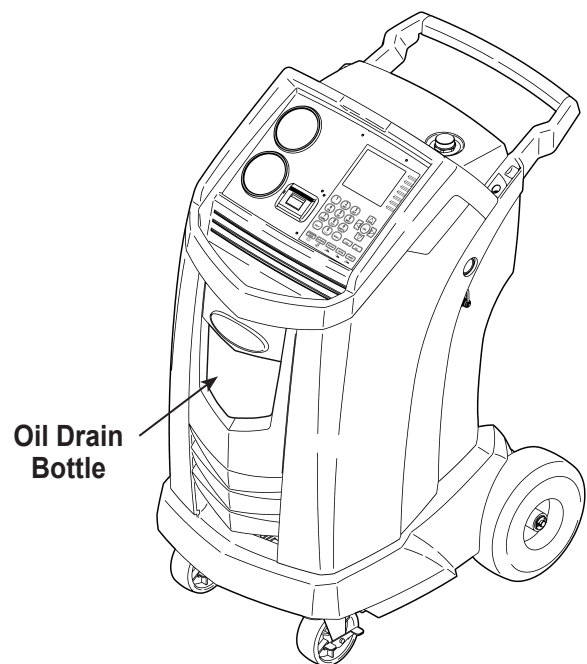

Figure 12
1. Empty the oil drain bottle before starting a recovery. Remove the oil drain bottle from the machine by pulling the bottle straight down — do not use a twisting or rocking motion. Refer to Figure 12.